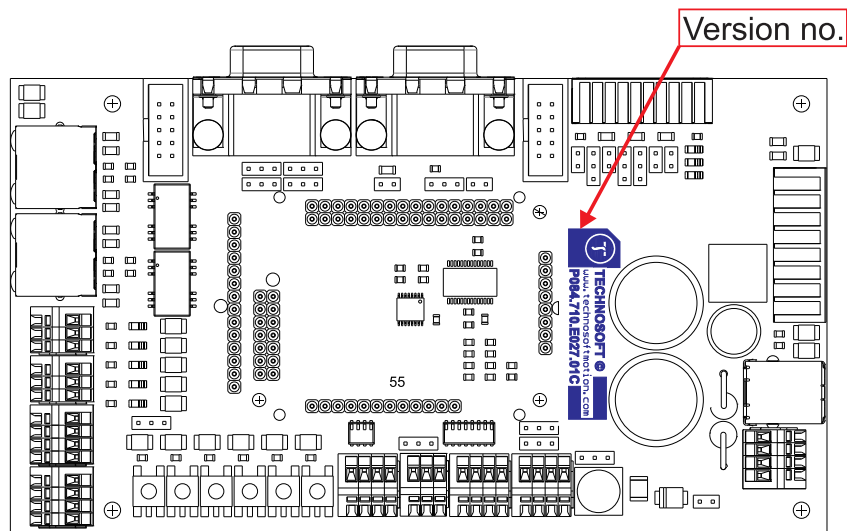

**Figure 2.3.1. IO-iPOS4808MY board dimensions**
**Figure 2.3.1** presents the IO-iPOS4808 board dimensions.